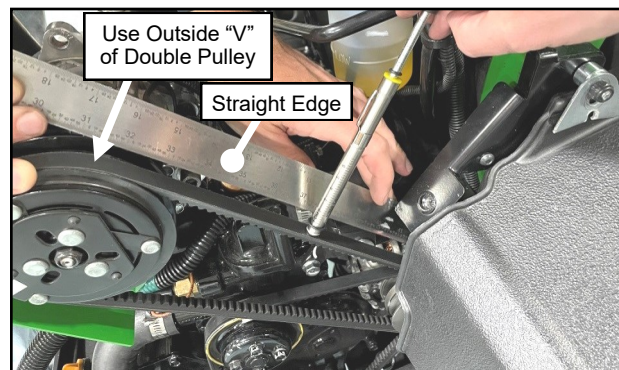

Fig. 2.12 (Install V-Belt)
2.12 Install V-Belt onto the outer "V" groove of the compressor and install the other end onto the double pulley found on the alternator. See Figure 2.12.
2.13 Tension belt by placing a straight edge tangent to compressor pulley and alternator pulley. Place belt tension tester in the center and perpendicular to the belt between the (2) pulleys and next to the straight edge. Push the tensioner towards the theoretical center making sure that a deflection force of 3.1 lbs. gets .2 inches of belt deflection at the center of the belt. See Figures 2.12 and 2.13. Tighten hardware and verify correct tension.